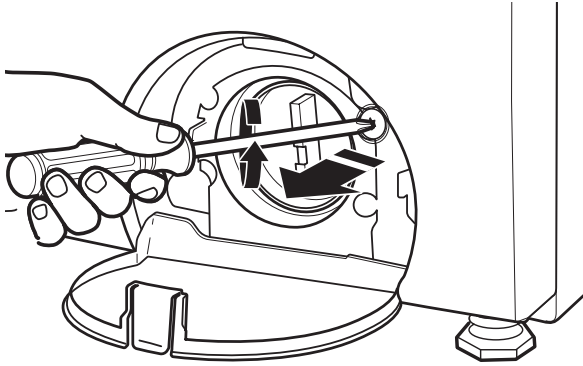

Figure 1
1. Open the drain pump filter access door at the bottom right corner at the front of the washer/dryer. With a Phillips head screwdriver, loosen and remove the Phillips head screw at the upper right portion of the access door compartment. (See Figure 1.)